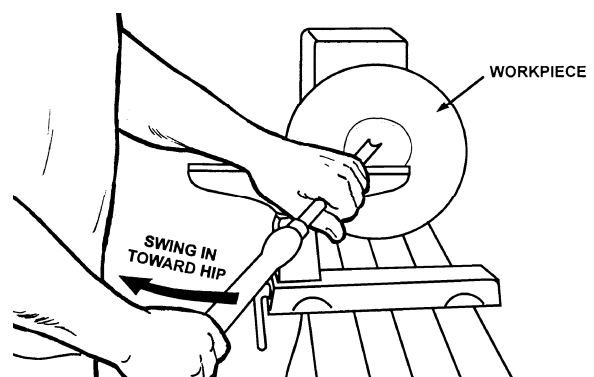

Figure 22
5. Place the 1/2" bowl gouge on the tool rest at the center of the workpiece with the flute facing the top of the bowl. The tool handle should be level and pointed toward four o'clock, see Figure 22.
6. Use your left hand to control the cutting edge of the gouge, while your right hand swings the tool handle around towards your body, see Figure 22.